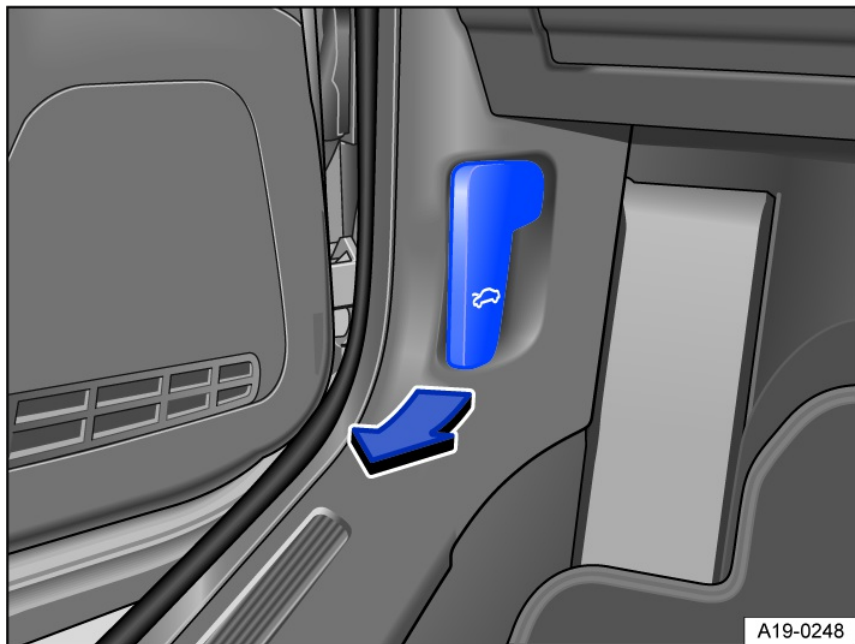

Fig. 148 In the driver's side footwell: Release lever for the hood (general example).
- Open the driver's door and pull the release lever in the direction of the arrow fig. 148. The hood will pop open due to spring force from the catch in the lock carrier .